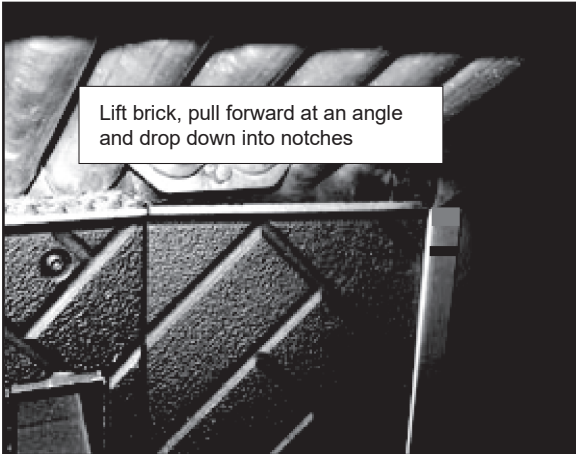

Figure 27.1
3. Lift slightly and pull the right edge of the brick forward until it stops and then drops down into both top and bottom notches of right bracket and locks into place (**Figures 27.1 and 27.2 on page 27**).